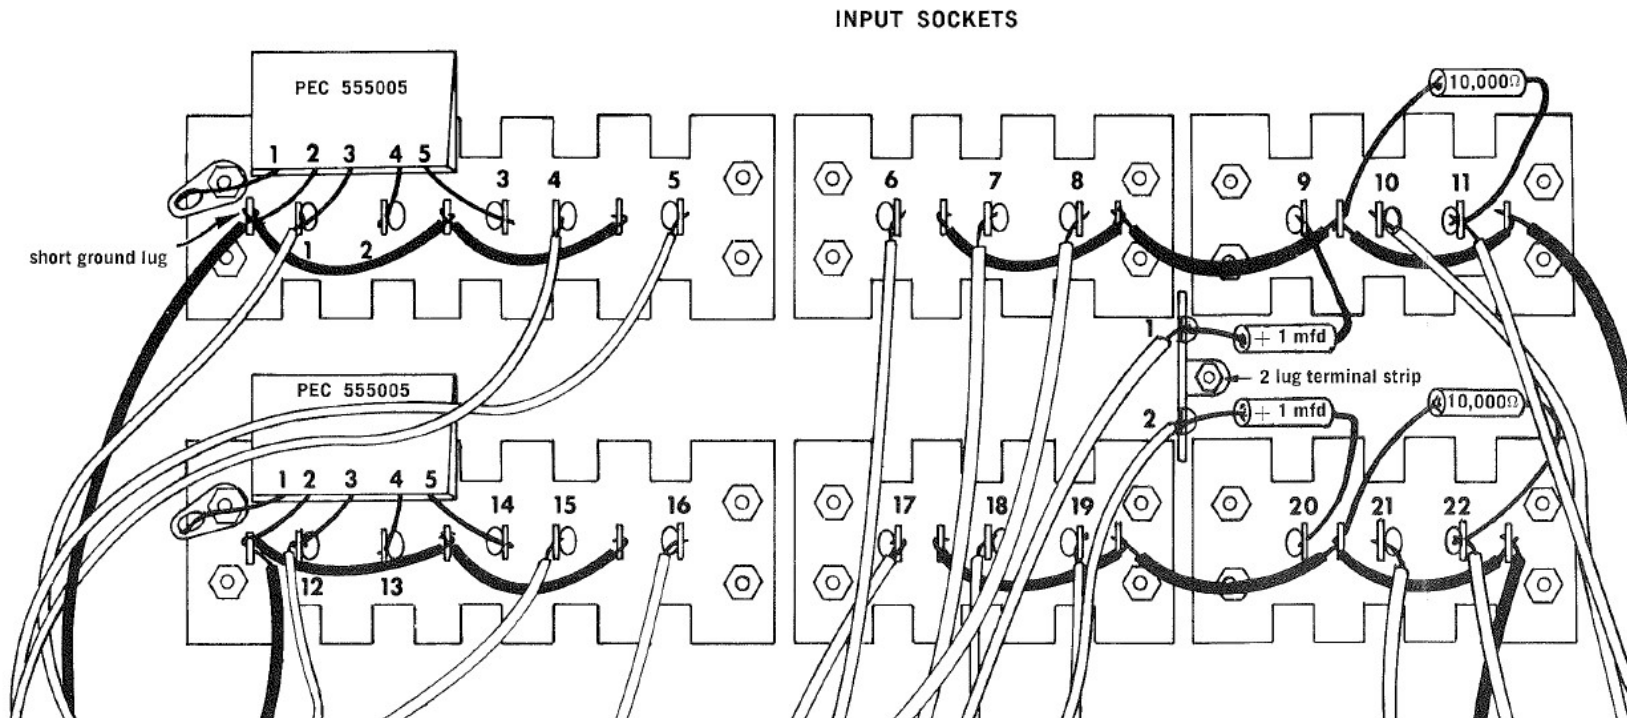

Figure 16-Original Back Panel Wiring, 1 mfd caps get removed and replaced by caps on the new selector PCBs
The following discussion may be helped by referring to Figure 16.
2. Remove the old 1 mfd tape monitor cap, refer to Figure 16. If it's easy, remove the terminal strip that held the capacitor.
- a. Remove the bottom two 4-40 screws and nuts (refer to Figure 16).